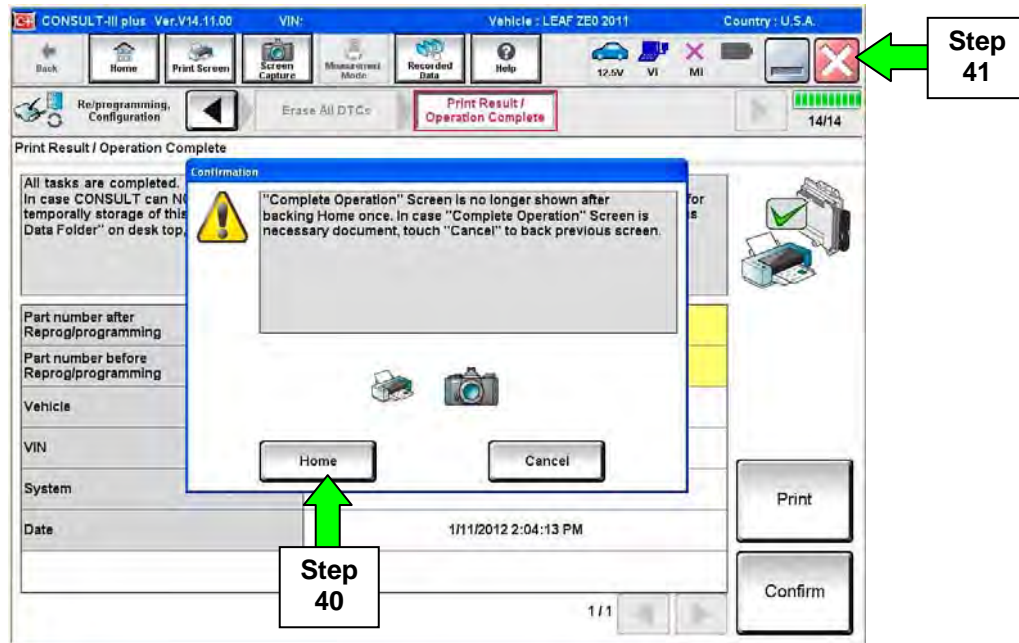

Figure 39
41. Close C-III plus by selecting “X” in Figure 39.